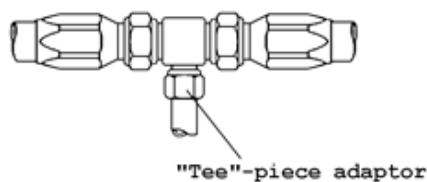

FIG 22.
- ii. To connect two or more lines or fittings. (Fig 22)